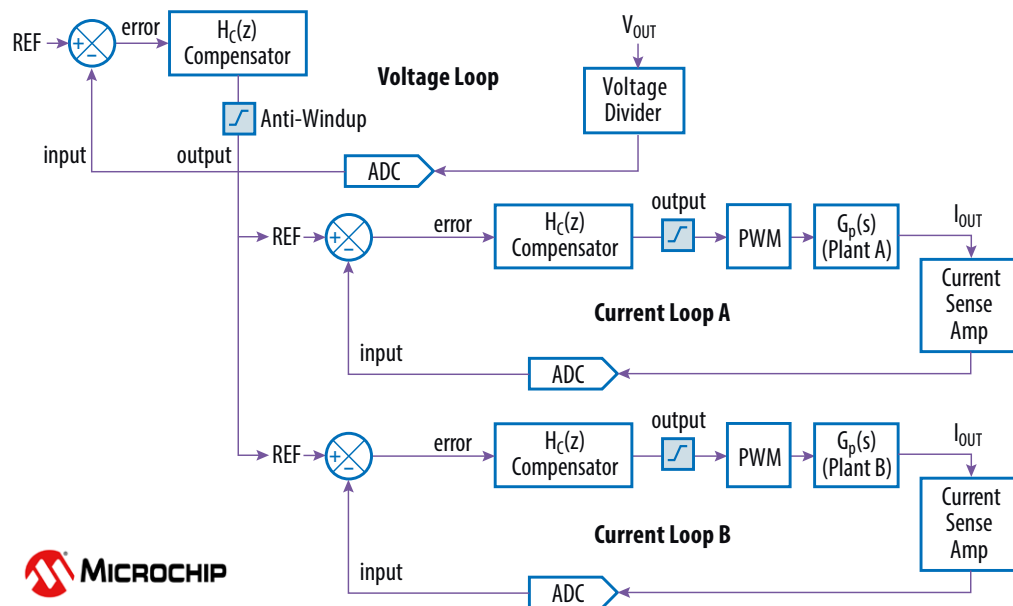

Figure 5. Interleaved buck converter average current mode control
**Conventional, Robust Average Current Mode Control (ACMC) (figure 5):** With this firmware the power converter is controlled by one outer voltage loop providing a shared reference to two independent inner average current loops controlling the phase current of each converter phase. This conventional approach ensures proper current balancing between both phases of this interleaved converter, operating 180° out of phase to minimize the input current ripple and filtering. The inner current loops are adjusted to average cross-over frequencies of 10 kHz. To balance the current reference perturbation of the inner current loops, the outer voltage loop has been adjusted to an average cross-over frequency of 2 kHz, which determines the overall response time of the converter.